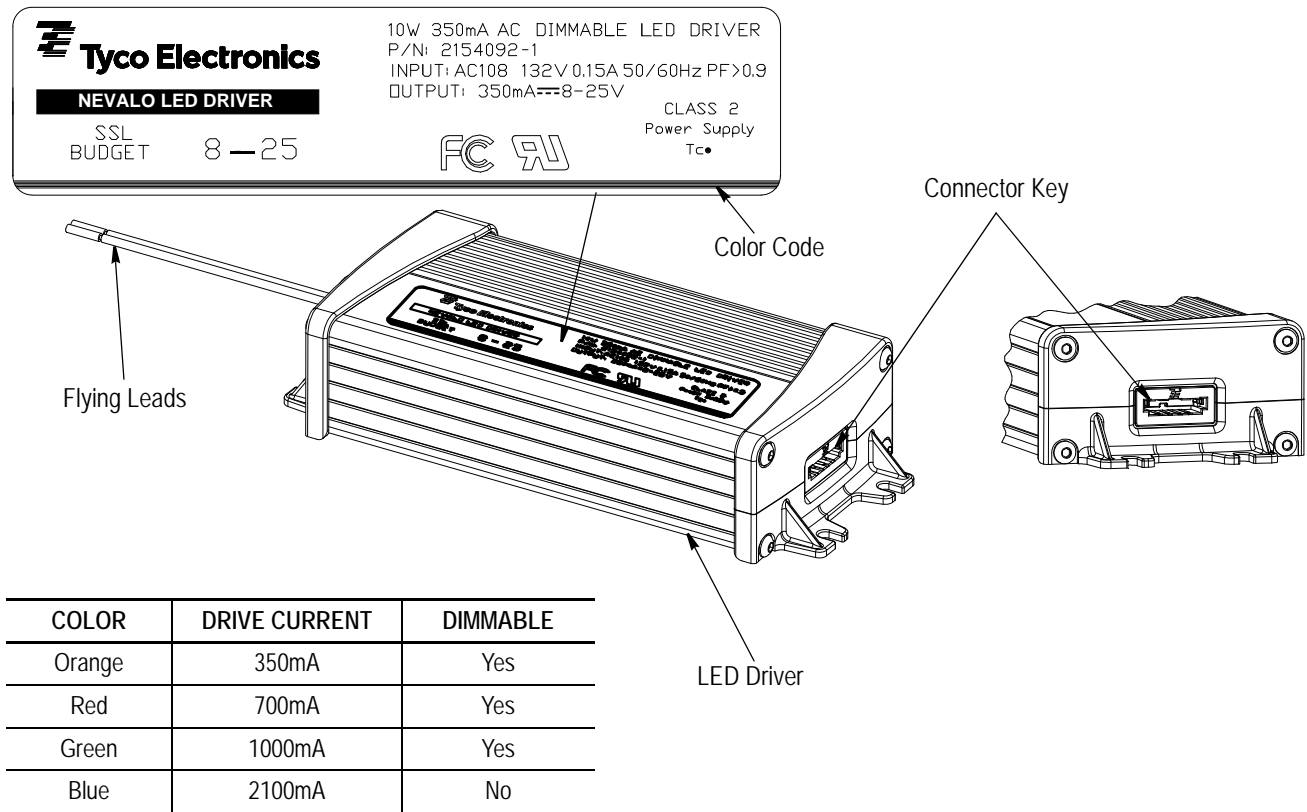

Figure 1
These drivers are available in four drive currents and are coded with four colors. All have a molded keying feature that corresponds to keying features on the mating interconnects to prevent over/under powering of light modules. See Figure 1.
- Corrected name in Figure 1